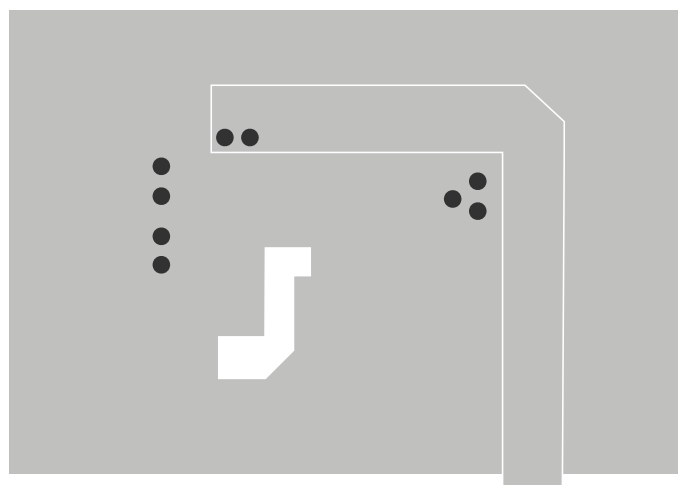

**Figure 2 — Recommended PCB Layout**
The layout diagram in Figure 2 illustrates a proper two layer PCB layout for the SC652 and supporting components. Following fundamental layout rules is critical for achieving the performance specified in the Electrical Characteristics table. The following guidelines are recommended when developing a PCB layout:
- Resistor  $R_{SET}$  should be connected as shown in Figure 2, close to pins IN and ISET. The placement and routing shown minimizes parasitic capacitance at the ISET pin.